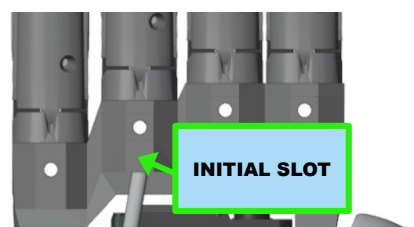

Figure 5.34: Inserting the tube into the initial slot (rear view)
1. Insert one end of the PTFE tube into the initial slot (on the rear of the skeleton) of the extension tendon (figure 5.34)